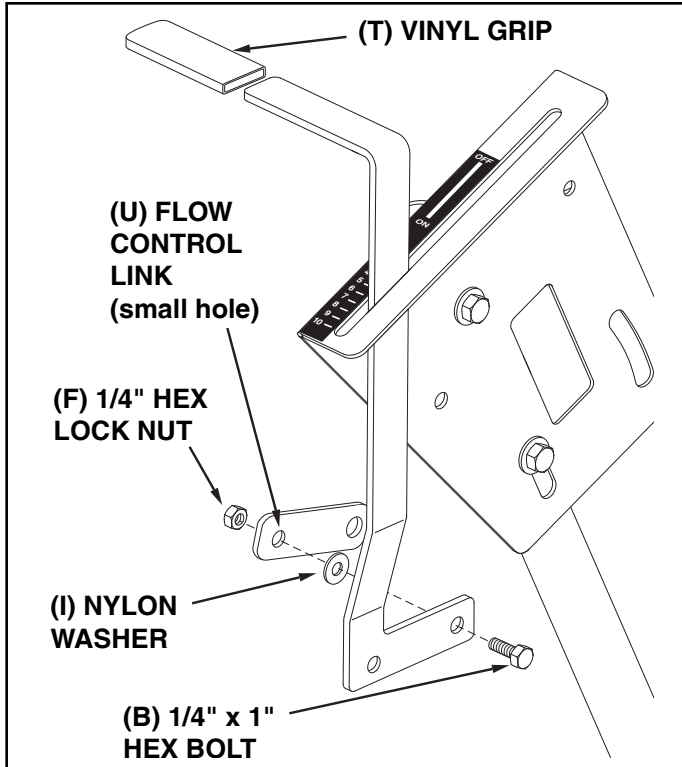

FIGURE 7
18. Assemble the vinyl grip (T) onto the flow control arm. See figure 7.
19. Insert the flow control arm down through the slot in the flow control bracket. Assemble the small hole of the flow control link (U) to the flow control arm using a 1/4" x 1" hex bolt (D), a nylon washer (I) and a 1/4" hex lock nut (F) as shown in figure 7. **Tighten carefully.** The flow control link should be snug but should pivot with no more than slight resistance.